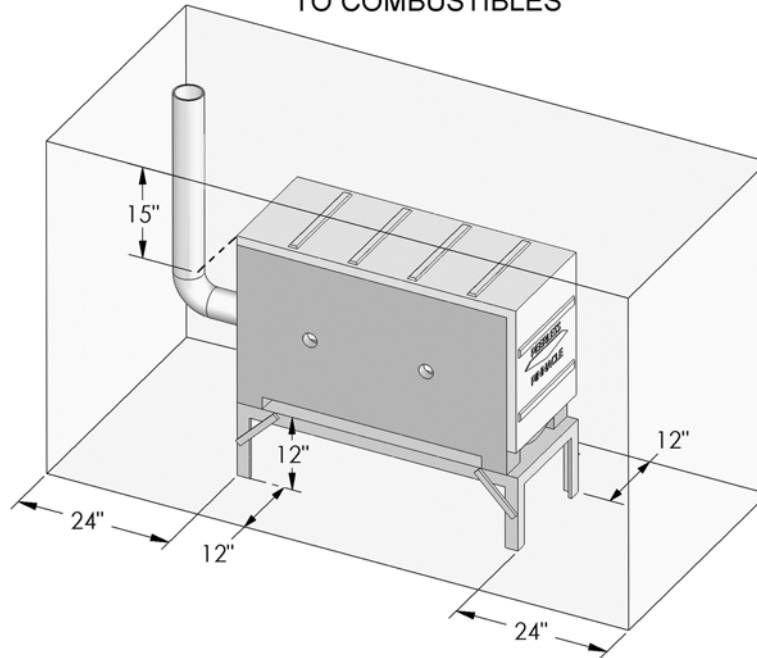

Figure 1.1:
2. Refer to Figure 1.1 for the recommended clearance to allow for reasonable access to the boiler. Local codes or special conditions may require greater clearances.